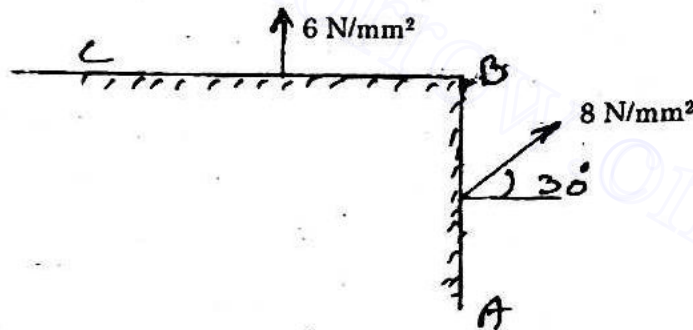

Fig. Q. 16(a)
16. (a) The intensity of resultant stress on a plane AB (Fig. Q. 16(a)) at a point in a material under stress is 8 N/mm^2 and it is inclined at 30° to the normal to that plane. The normal component of stress on another plane BC at right angles to plane AB is 6 N/mm^2 . Determine the following :
- (iii) The maximum shear stresses. (15)